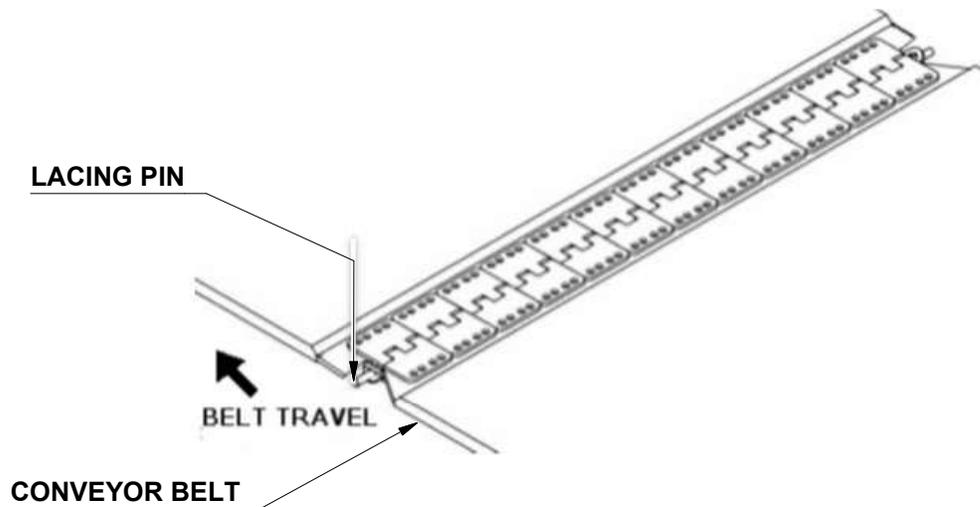

FIGURE 11: BELT LACING
4. Remove the lacing pin (see Figure 11).
Important: Ensure that the belt lacing is installed as shown in Figure 11. Note the direction of belt travel (as shown in Figures 8-10) and square and trimmed edge positions.